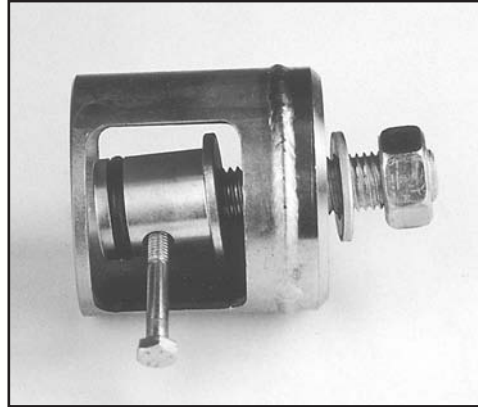

FIG. 60: DISASSEMBLY TOOL
8. Place the control tube end into the disassembly tool (see Fig. 60) until the bore of the tool overlaps the bores of the control tube.